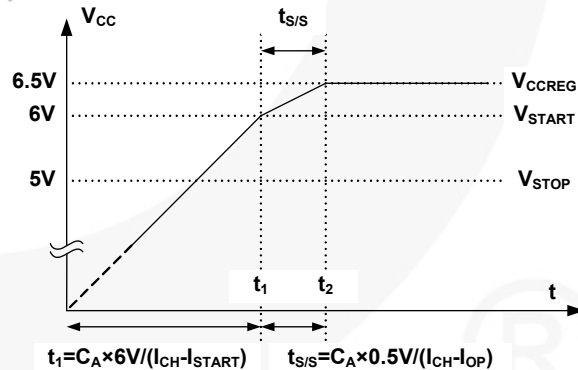

Figure 20. Soft-Start Function
4. Soft-Start: The soft-start time is tuned by an external V_{CC} capacitor (C_A), which increases PWM comparator non-inverting input voltage together with the senseFET current slowly after it starts up. Before V_{CC} reaches V_{START} , C_A is charged by the current $I_{CH-I_{START}}$, where I_{CH} and I_{START} are described in Figure 15. After V_{CC} reaches V_{START} , all internal blocks are activated, so that the current consuming inside IC becomes I_{CP} . Therefore, C_A is charged by the current $I_{CH-I_{CP}}$, which makes the increasing slope of V_{CC} become sluggish. V_{CC} is shifted by 6.0V negatively (it is performed in soft-start block in Figure 2), and then $V_{CC} - 6.0V$ is an input of one of the input terminals of the PWM comparator. The drain current follows $V_{CC} - 6.0V$ instead of the V_{FB}^* because of the low-dominant feature of the PWM comparator. The soft-start time can be made long or short by selecting C_A , as described in Figure 20. During $t_{S/S}$, I_{DELAY} is disabled to avoid unwanted OLP. Typically, $t_{S/S}$ is around 4.6ms with 27 μF of C_A .